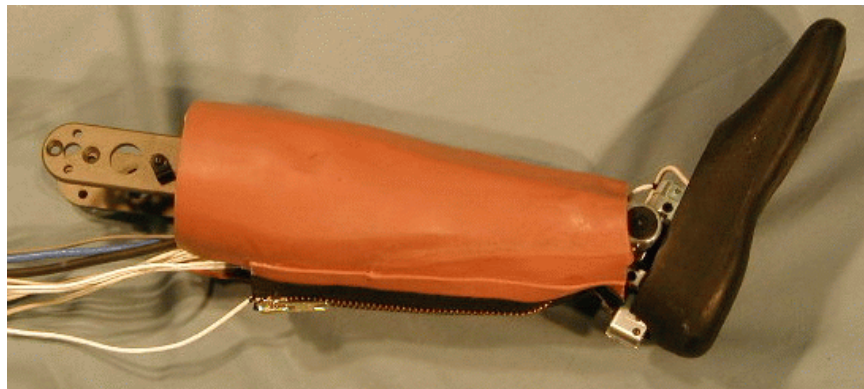

Figure 3.38 - Completed THOR-FLX / HIIIR Foot, Ankle, and Lower Leg Assembly
35. Zip the tibia skin around the leg to complete the assembly, as shown in **Figure 3.38**.